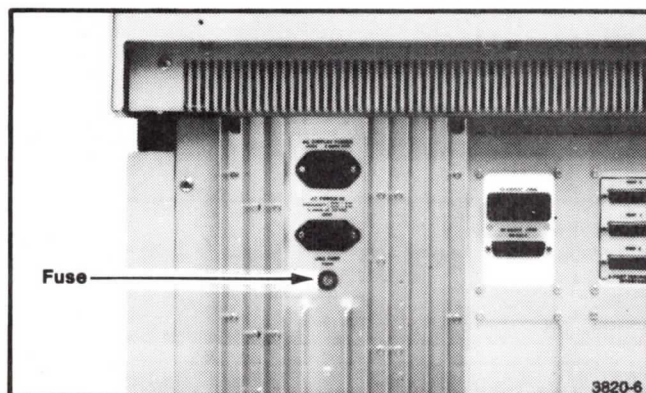

**Figure 3-2. Keyboard with Function Keys and Thumbwheels.**
(Refer to Figure 3-2.)
- o Setup commands in the examples are shown in UPPER CASE. However, any English-like setup command can be entered in either upper or lower case. (An "escape sequence" entered in Setup mode must be all upper case, see Table 3-5). If you want to enter all upper case characters as shown, press the CAPS LOCK key (Figure 3-2).
3. Press the LOCAL key (Figure 3-2).	The red light in the key turns on and the terminal enters Local mode.
4. Press the following keys: (ESC)(8)	This command sets text size of the terminal. If the text was already set to this size, there is no change. The size of the cursor changes to reflect the new text size.
6. Press the key labeled SET UP (Figure 3-2).	The red light in the key turns on.
9. Press the PAGE key. (Figure 3-2)	The screen is erased.